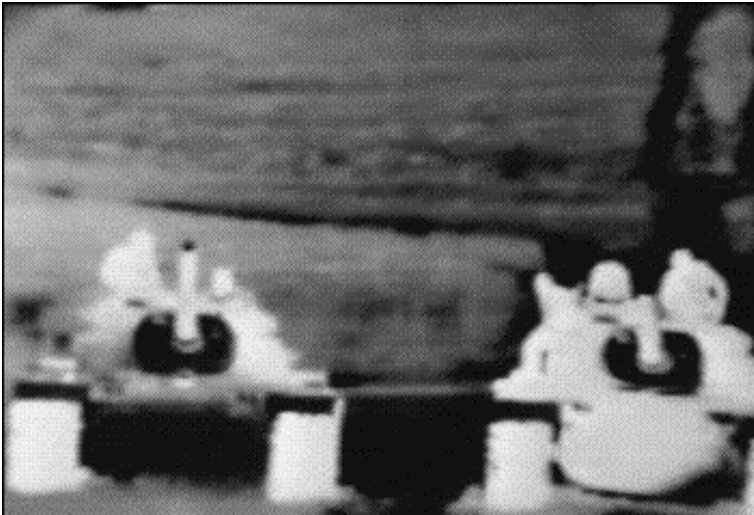

Figure 6-1-7: Personnel Location Thermal Signature
33. Low clutter represents an ideal target acquisition environment. Background features are suppressed providing high target contrast. In Figure 6-1-7 the target is easily detected at over 4000 metres. Even personnel are detectable at 2700 metres in a low clutter environment. Low clutter is very common in our North American climate and will occur normally under the following conditions: